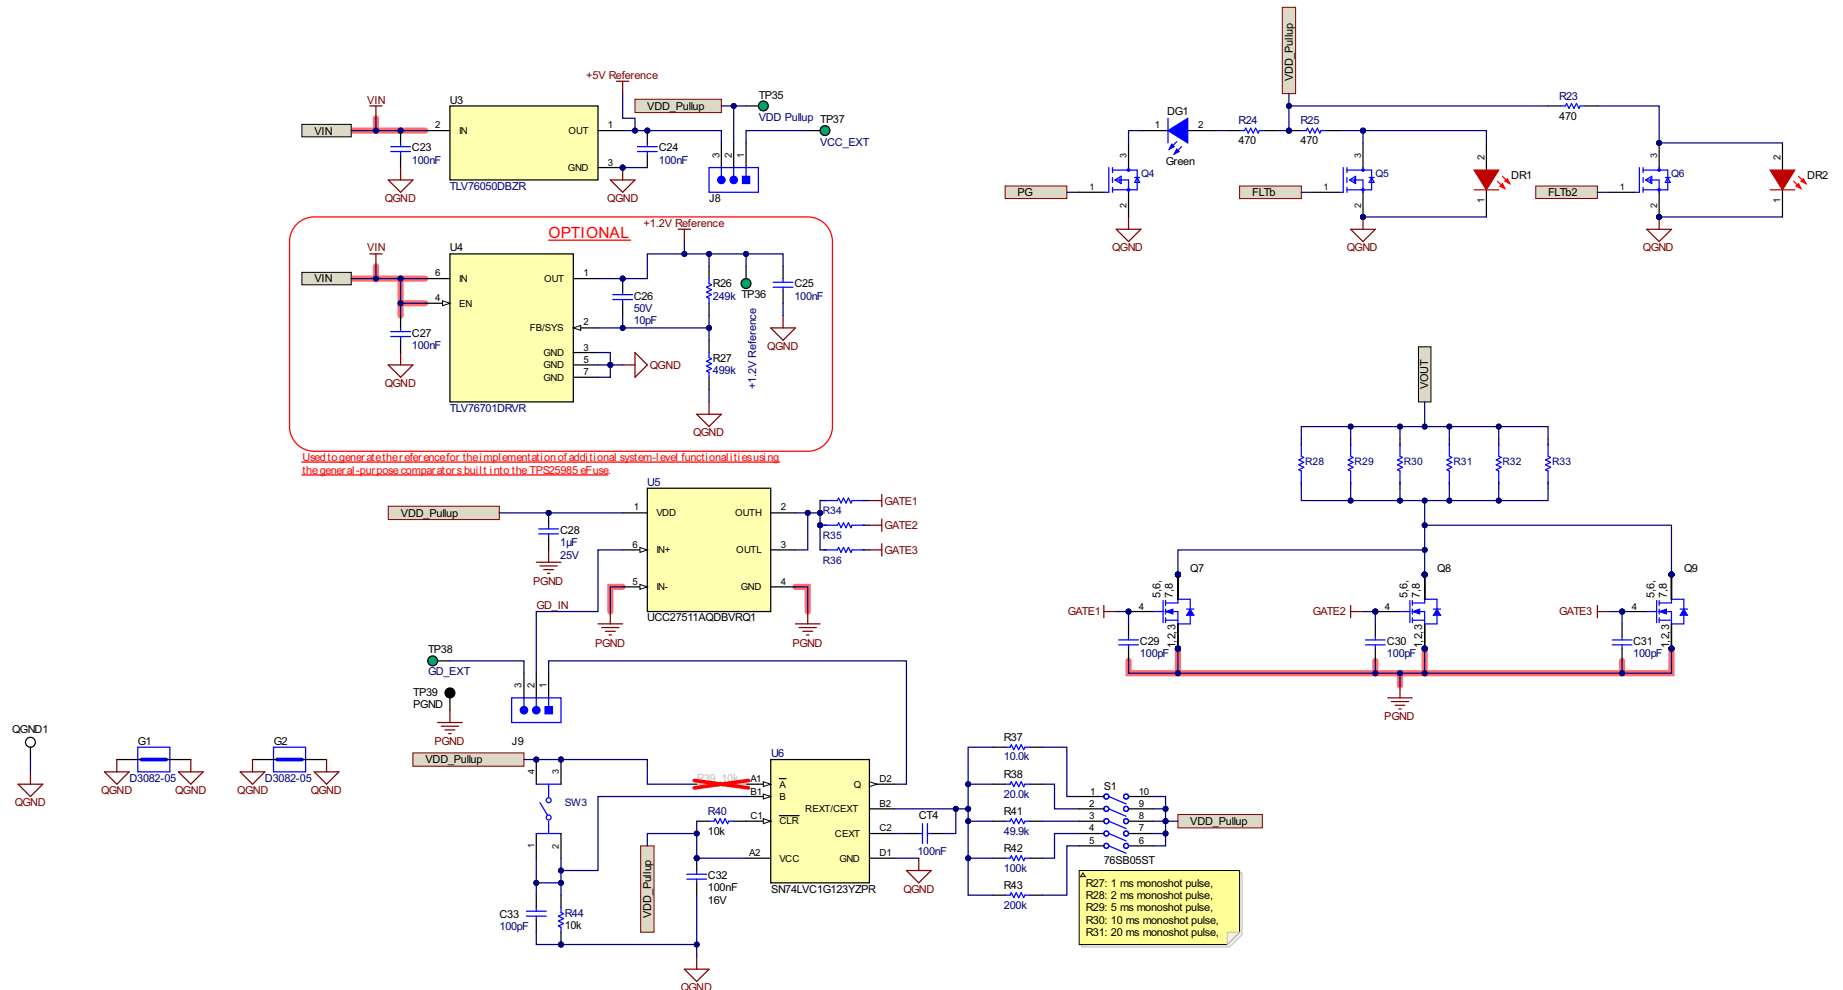

Figure 3-1. TPS25985EVM eFuse Evaluation Board Schematic
The TPS25985EVM enables the evaluation of TPS259850x and TPS259851x eFuses from TPS25985 family. This EVM has two (2) TPS259850x eFuses connected in parallel. The input power is applied across the connectors T1 and T3, while T2 and T3 provide the output connection for the EVM; refer to the schematic in Figure 3-1 and EVM test setup in Figure 5-1. TVS diodes D1 and D2 provide the input protection from transient overvoltages. Schottky diodes D3 and D4 protect the output by clamping the negative voltage excursion at the OUT pins of TPS25985 eFuses within the maximum absolute rating.
Figure 3-1 illustrates the EVM schematic.